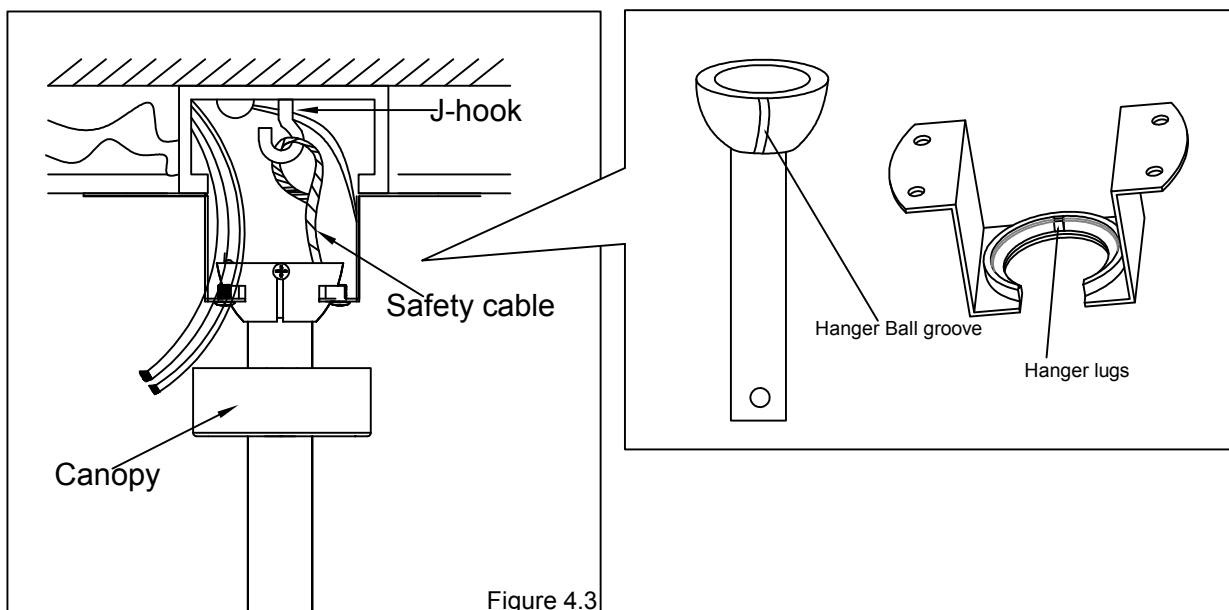

Figure 4.3
- Hang the ball joint and fan on the hanger, turn the pipe gently, make sure the hanger lugs are installed in the ball groove, and hang the wire rope on the J-hook. (Figure 4.3)